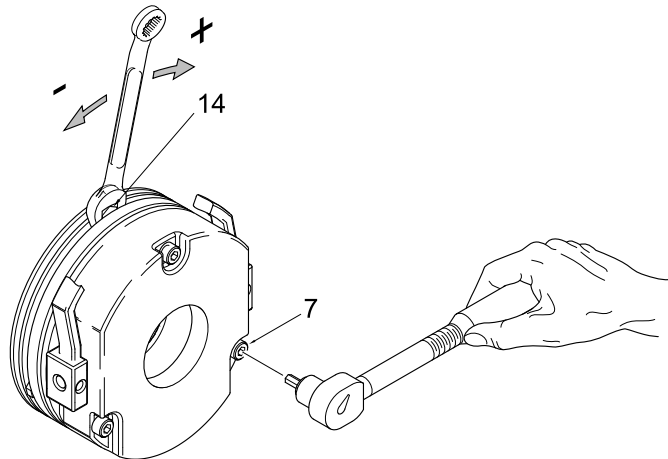

Figure 49 – Adjusting the Hoist Brake Air Gap
Where adjustment is required, slacken the assembly screws (7). Adjust the air gap by turning the adjustment tubes (14) until the nominal air gap 'a' is reached (see Figure 49).
- If the air gap is too large, screw the three adjustment tubes (14) into the stator. If the air gap is too small, screw the adjustment tubes out of the stator.